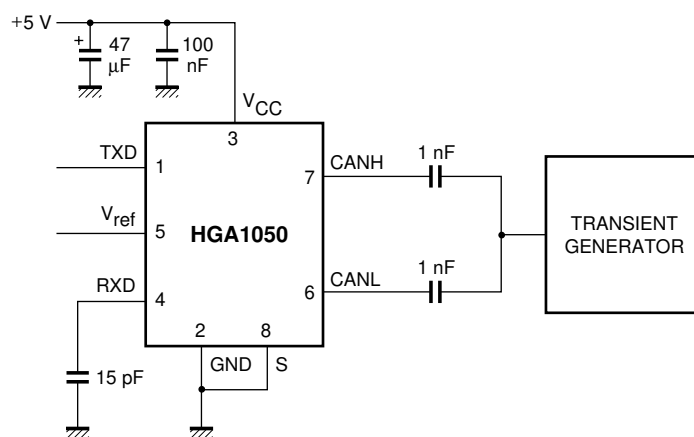

Fig.6 Test circuit for automotive transients.
The CANH and CANL lines are protected from automotive electrical transients (according to "ISO 7637", see Fig.6) and are also protected from Electro-Static-Discharge (ESD) of up to 4 kV from the human body.
- The waveforms of the applied transients shall be in accordance with "ISO 7637 part 1", test pulses 1, 2, 3a and 3b, (see Fig.6).
- In accordance with "IEC 747-1". An alternative definition of T_j is: $T_j = T_{amb} + P \times R_{th(j-a)}$, where $R_{th(j-a)}$ is a fixed value to be used for the calculation of T_j . The rating for T_j limits the allowable combinations of power dissipation (P) and ambient temperature (T_{amb}).